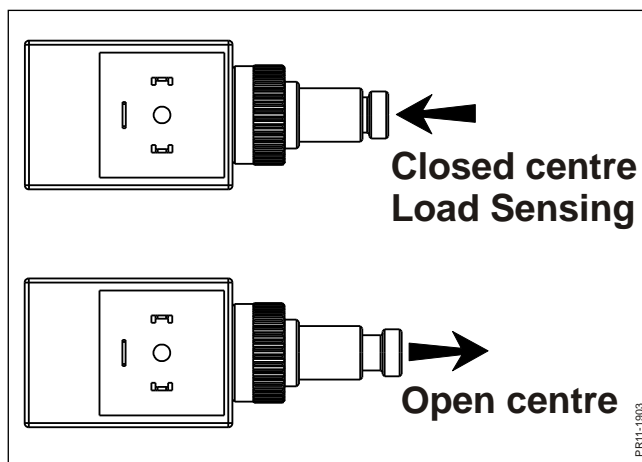

Fig. 2-1
**Fig. 2-1** A distinction is made between two types of tractor hydraulic systems: "open centre hydraulics" (also known as "fixed pump") and "closed centre hydraulics" (also known as "variable pump").